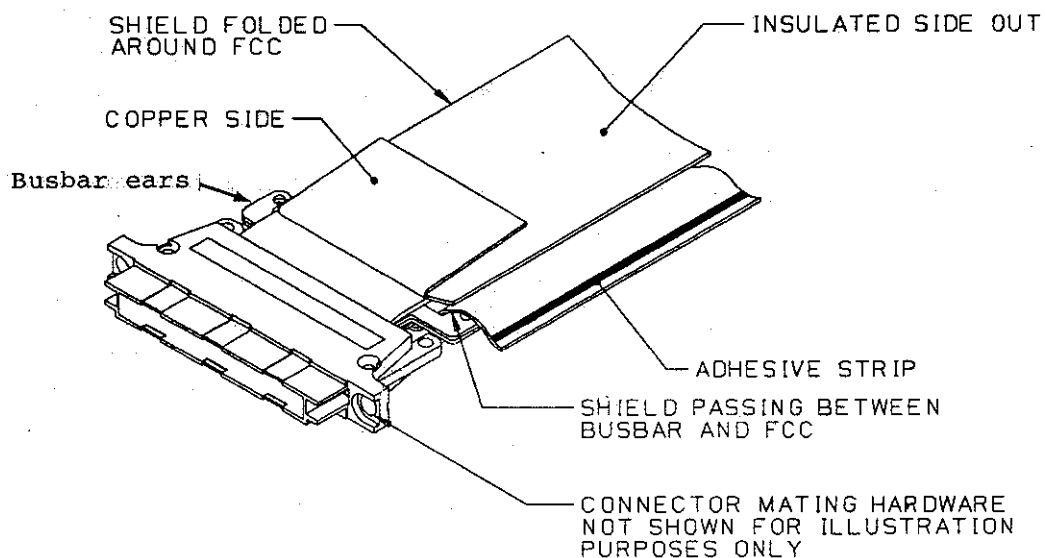

Figure 22. Wraparound Shield Folded Around FCC
4. Fold the shield around the FCC for the full length of the cable assembly as shown in figure 22.